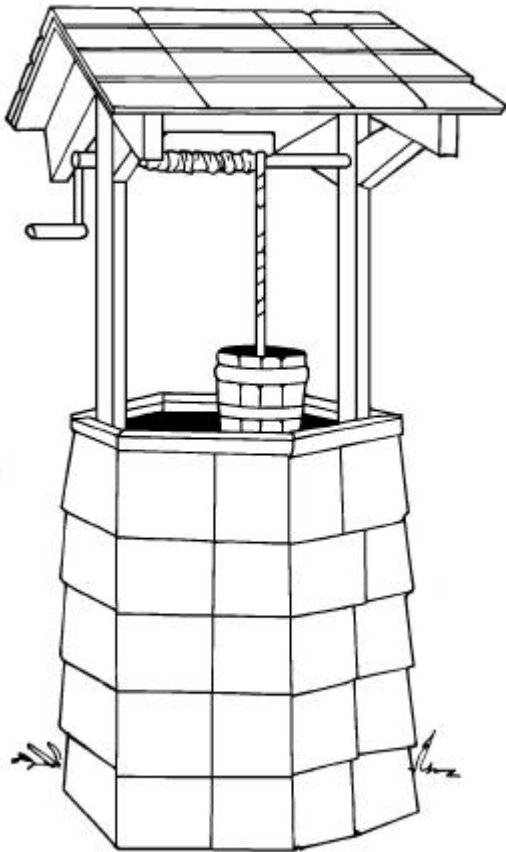

Figure 20
7. For an authentic touch, add a rope and a wooden bucket as in *Figure 20*. (The older and more weathered the better!)